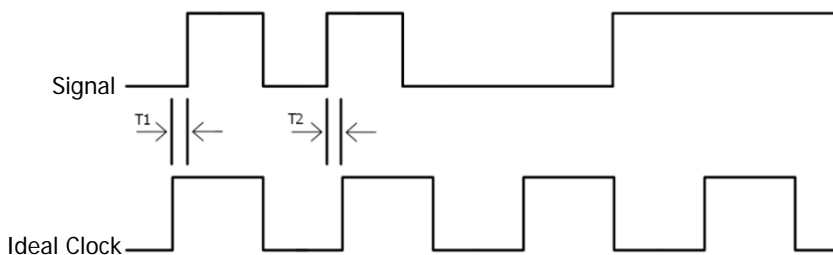

Figure 7-1 Digital Bus Jitter
- Press **Jitter Reject** to turn on the jitter rejection function. Jitter refers to the short-term deviation of the signal relative to its ideal time position at certain time point, as shown as T1 and T2 in Figure 7-1. When no reference clock is selected for the bus, the jump status of each channel would cause the variation of the bus data and undesired data would be generated due to jitter when the